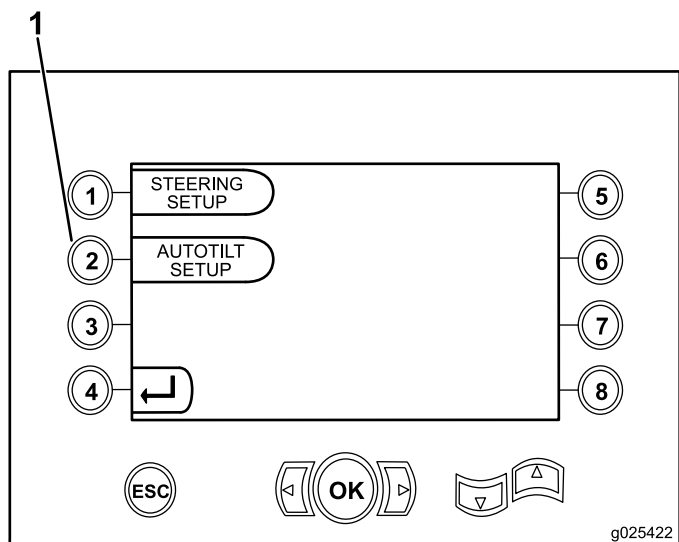

Figure 7
The Trencher Setup screen appears (Figure 7).
5. Press 2 to select Autotilt Setup (Figure 7).